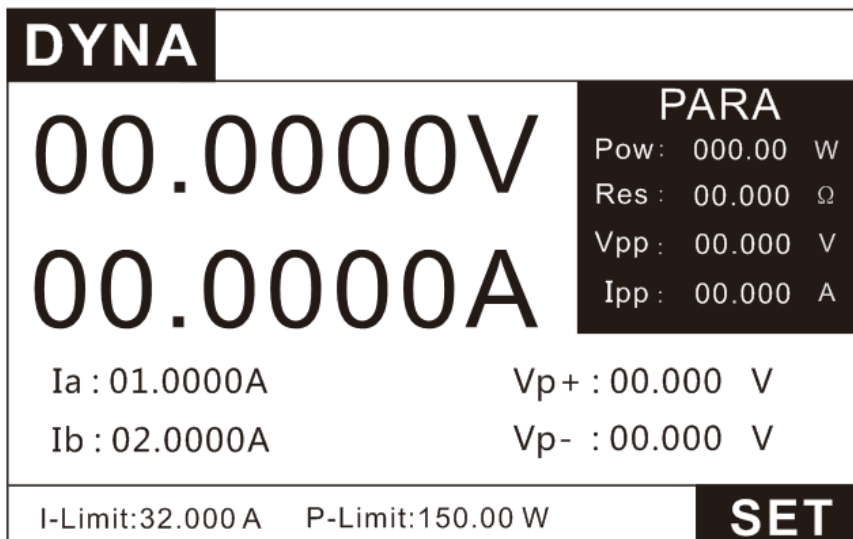
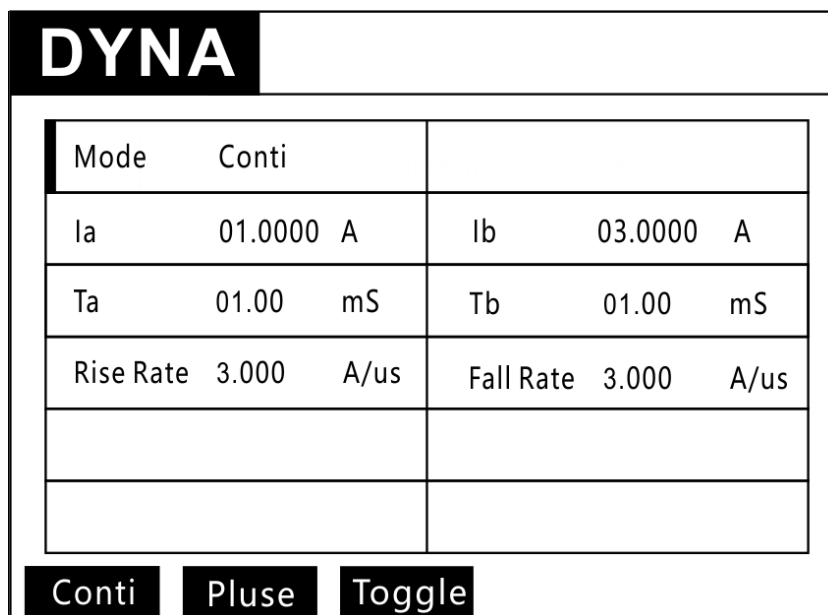

Figure 3.16 DYNA testing page
Figure 3.17 DYNA Setting Page
1. Press the key **MODE** to enter the mode selection page, press the up and down keys to select DYNA, and press the key **ENTER** to enter the DYNA test interface, as shown in Figure 3.16.
2. In Figure 3.16, press the key **SET** to enter the setting interface, as shown in Figure 3.17.
3. As shown in Figure 3.17, set the test mode to continuous test, high current $I_b=3A$, high time $T_b=1mS$, low current $I_a=1A$, low time $T_a=1mS$, rise/fall rate= $3A/\mu S$.